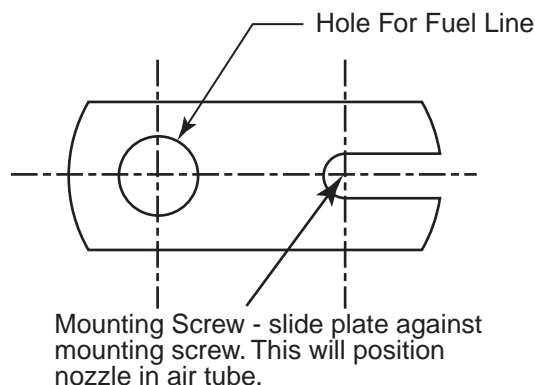

Figure 20. Electrode Assembly Installation
1. Adjust electrode assembly per Figure 20.